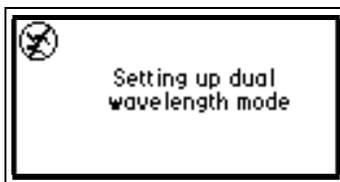

Figure 3-18 Wavelength Mode Change Message (for Dual Wavelength)
1. From the Absorbance (or HOME) screen when in single wavelength mode (the wavelength icon shows λ), press the $\lambda\lambda\lambda$ key (**Shift Auto Zero**). This key toggles between single and dual wavelength modes. A momentary message (“Setting up dual wavelength mode”) appears (Figure 3-18).